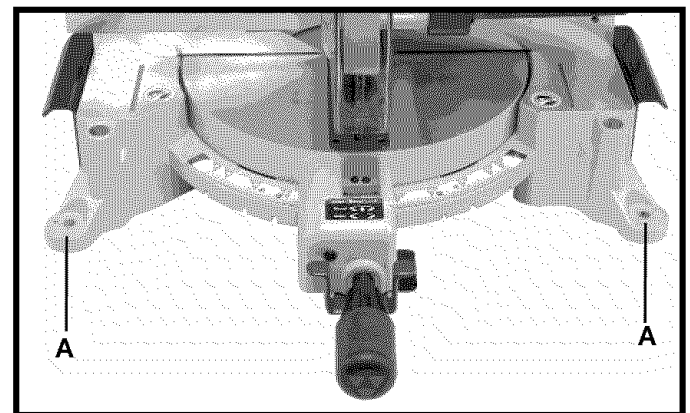

Fig. 8
Before operating your compound miter saw, make sure it is firmly mounted to a sturdy workbench or other supporting surface. Four holes are provided, two of which are shown at (A) Fig. 8.